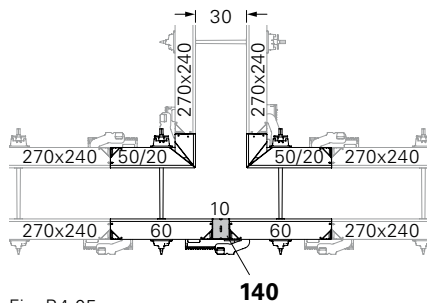

Fig. B4.05
- Wall thickness 30: Fig. B4.05